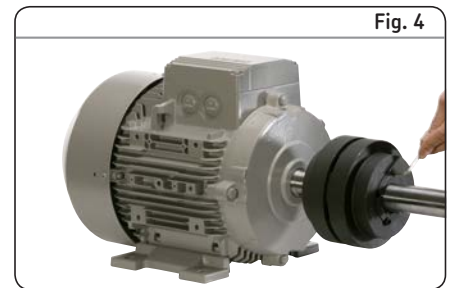
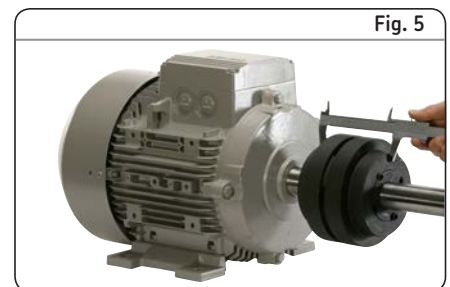

Fig. 4
Fig. 5
- 3 Move the other coupling into position and connect the two halves (→ **fig. 4**). Check that the assembled length is correct (→ **fig. 5**).